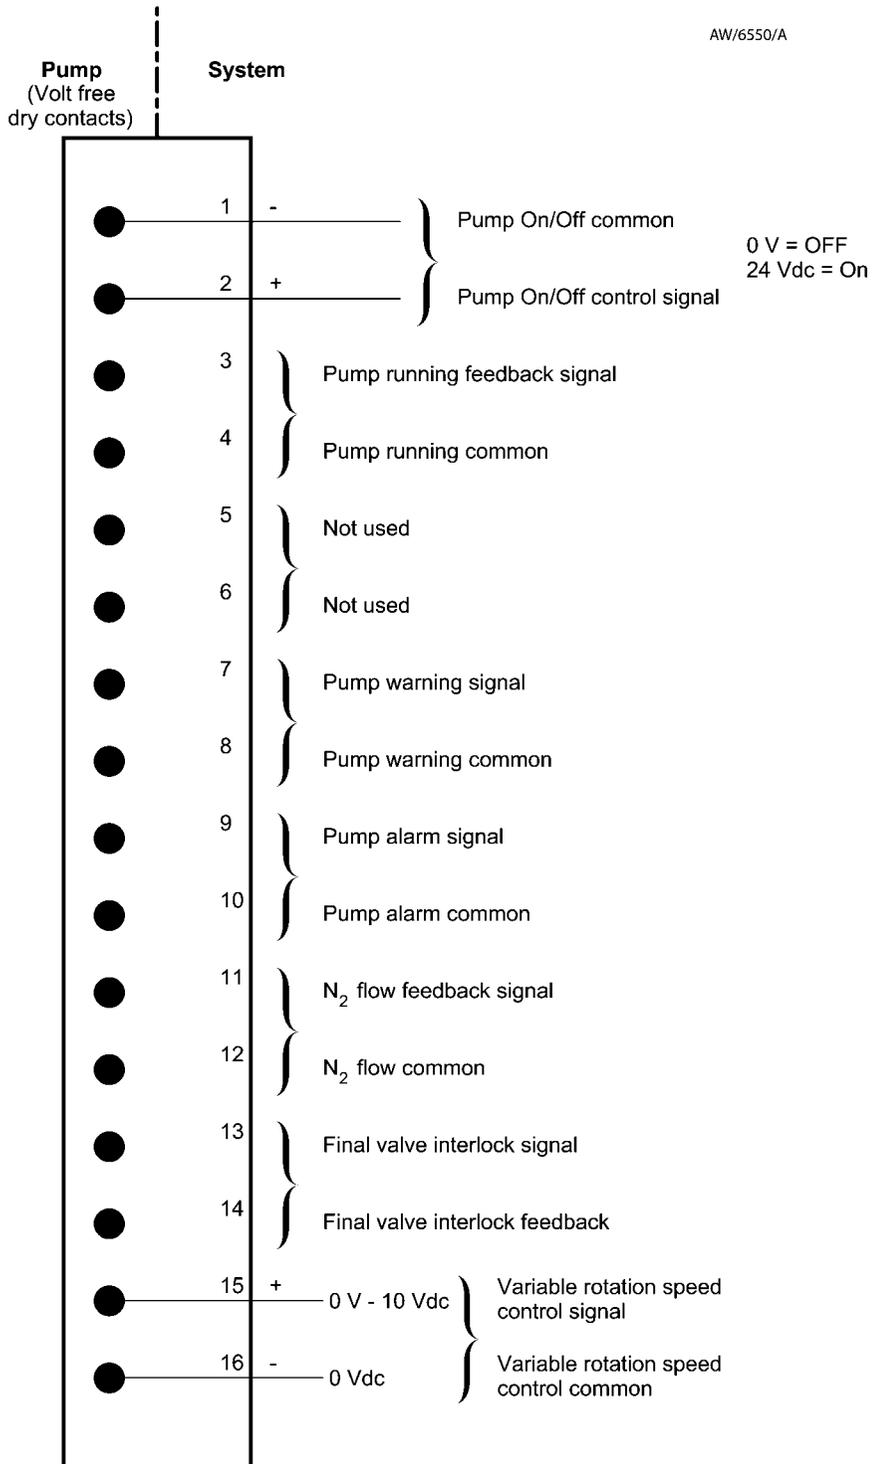

Figure 16 - SPI Connections
3. Pass the incoming mains cable from the tool through the cable gland (Figure 16, item 2), allowing sufficient length inside the connection box to remove any strain from the wiring.
6. Tighten the cable gland (Figure 16, item 2).
Connect the Smart Pump Interface Cable to the Comms 3 port (Figure 2, item 6) (Cable not supplied). The pin-out is shown in Figure 16.